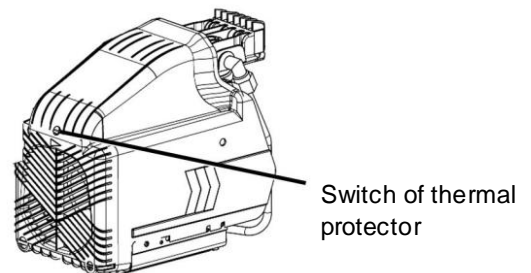

Fig. 11
- (2) If the extension cord does not conform to the specifications given on page 6 replace with an extension cord such as that shown on page 6. If the capacity of the power supply is insufficient, increase the power supply capacity to remove the cause of a flow of excessive current (over-current).
- (3) Wait approximately 5 minutes, then press the reset switch of the thermal protector (Fig. 11).
- (4) Start up. If the motor still stops during operation, please contact the service center.